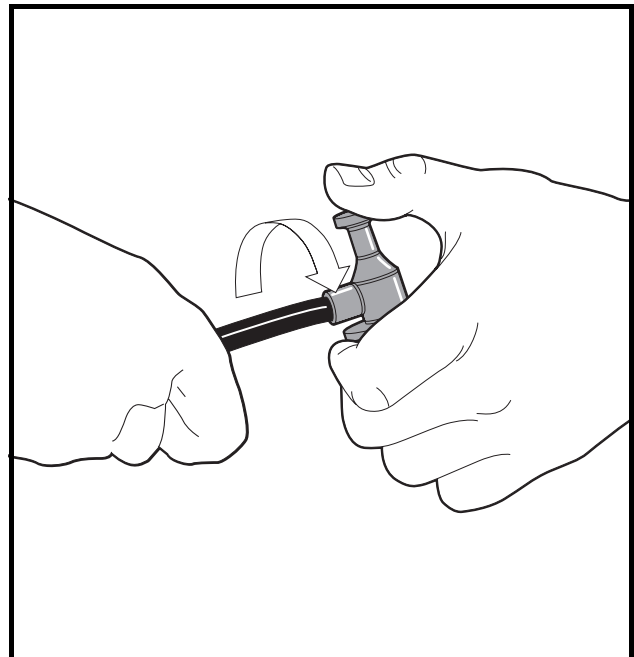

Figure 12-22 Spark Plug Cap Removal
- 4.2. Remove the cap from the wire by turning the cap counterclockwise three or four revolutions while gently pulling it off the wire (**Figure 12-22, Page 12-23**).